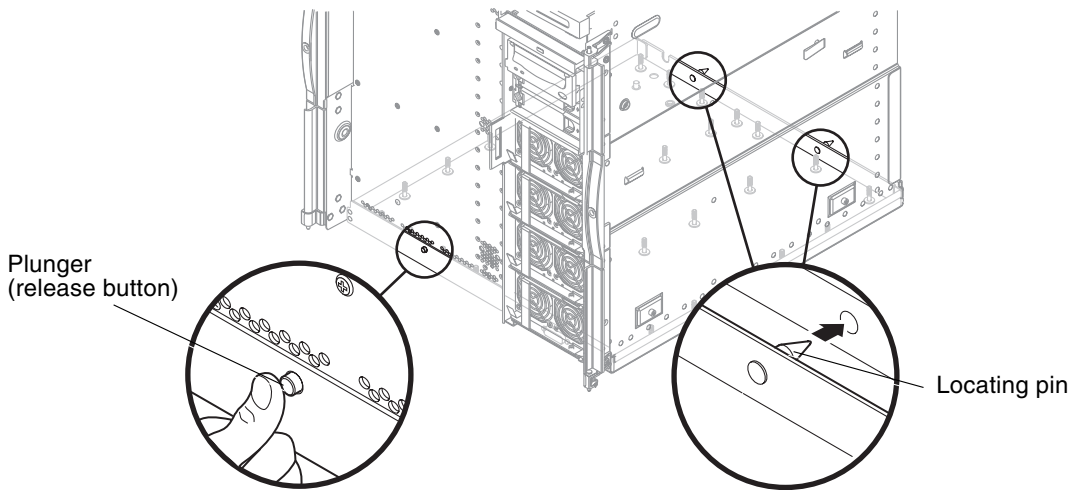

FIGURE 13-3 Releasing the Baseplane Plunger (If Fitted)
- If the system has a plunger (release button), with one hand, hold the baseplane up and press in the plunger (release button) at the front of the chassis (FIGURE 13-3).
18. Lower the front of the baseplane and pull it forward (FIGURE 13-3).
3. Insert the locating pins into the slots at the rear of the chassis (FIGURE 13-3).